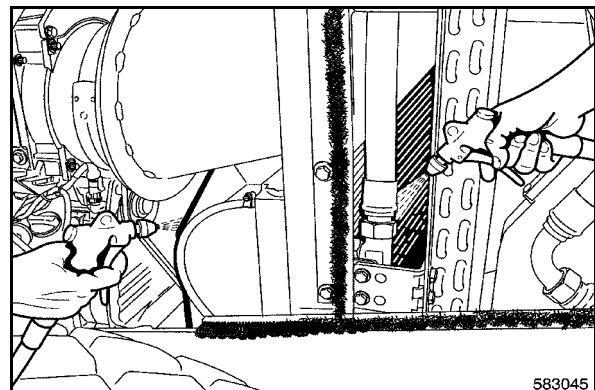

Fig. 129
- Blow the cooler (Fig. 129) out with compressed air.